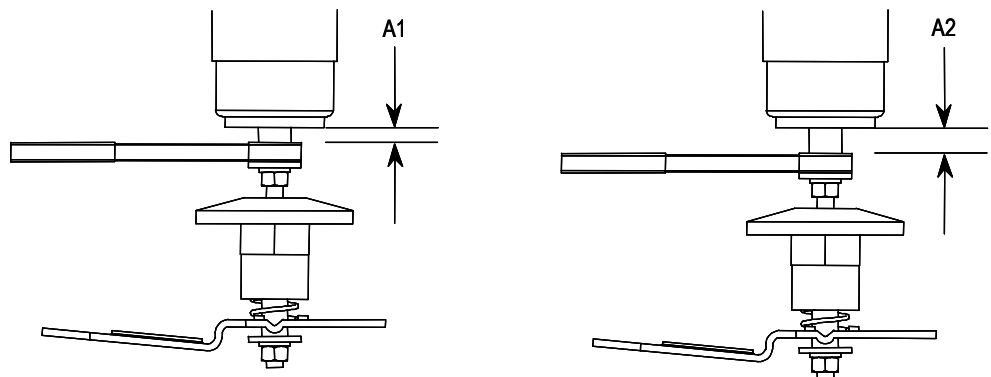

Figure 4.8 – Measuring Contact Gap
8. With the contactor still energized, measure dimension A1 for all three bottles (Figure 4.8). De-energize (drop out) the contactor and measure dimension A2 for all three bottles. The contact gap is the difference of A2 minus A1. Record the gap for all three bottles.